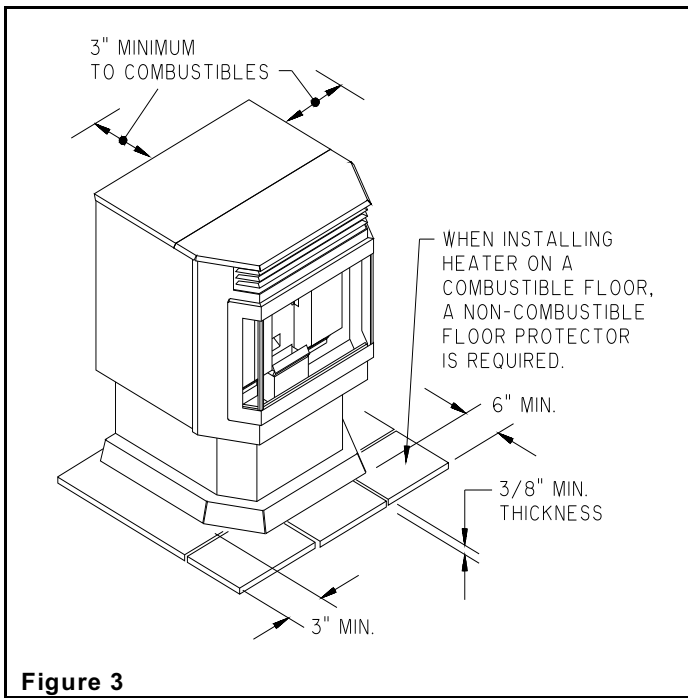

Figure 3
4. **A non-combustible hearth pad must be used if installed on a carpet, wood floor or other combustible material** (see Figure 3).
**IMPORTANT:** The Fire Pot must be seated flush and must sit even in the pot tray. Air leaking around the Fire Pot will create a poor burn (Figure 3). Light the pellets in Fire Pot using any approved pellet lighter.